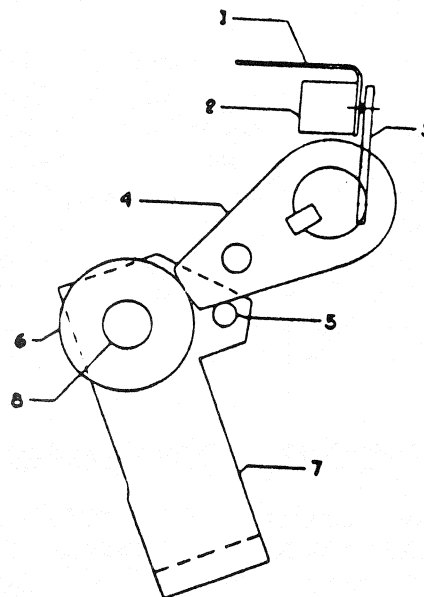

FIGURE 17 (0114C5320) LATCH CHECKING SWITCH
Refer to Figure 17. Charge the closing springs sufficiently to reset the mechanism linkage. Rotate the trip latch (4) by pressing the manual trip lever to open the latch checking switch (2). Allow the trip latch to reset slowly and determine the point at which the contacts are made by using a circuit continuity tester (light indicator, bell set, etc.). The contacts of the latch checking switch should just make when the gap between the trip latch (4) and the stop pin (5) located on the latch roller link (7) is 1/16". There should be a minimum of 1/64" between the switch arm (3) and the switch support (1). To obtain adjustment of the latch checking switch, bend the latch checking switch arm (3).